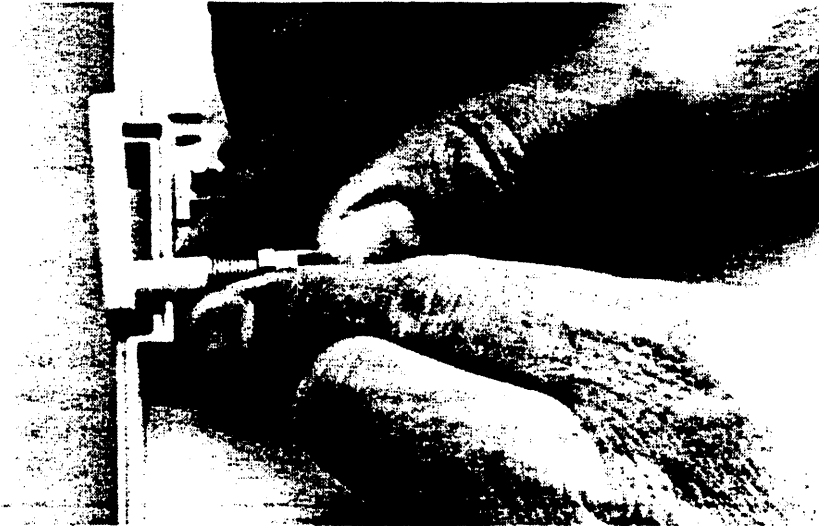

Figure 6-38a. Installing a Keyboard Leg
2. Install the legs as shown in figures 6-38a and 6-38b.